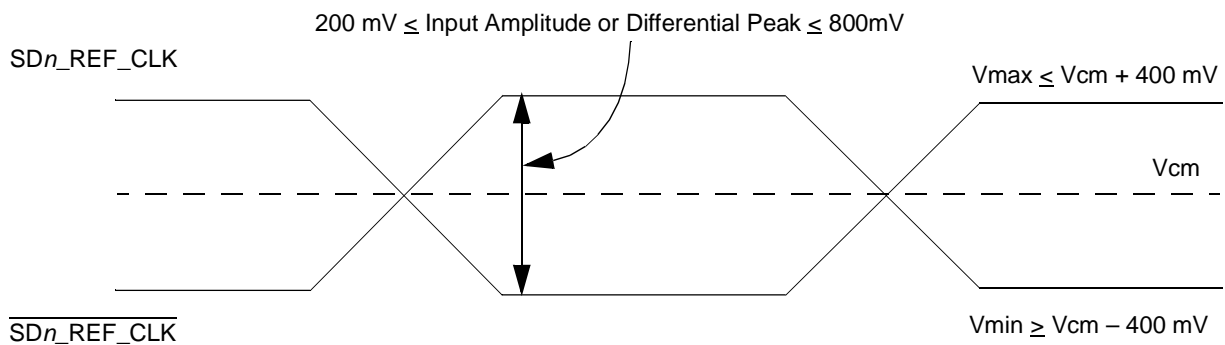

Figure 45. Differential Reference Clock Input DC Requirements (External AC-Coupled)
- For **external AC-coupled** connection, there is no common mode voltage requirement for the clock driver. Since the external AC-coupling capacitor blocks the DC level, the clock driver and the SerDes reference clock receiver operate in different command mode voltages. The SerDes reference clock receiver in this connection scheme has its common mode voltage set to $SGND_SRDS$. Each signal wire of the differential inputs is allowed to swing below and above the command mode voltage ($SGND_SRDS$). Figure 45 shows the SerDes reference clock input requirement for AC-coupled connection scheme.